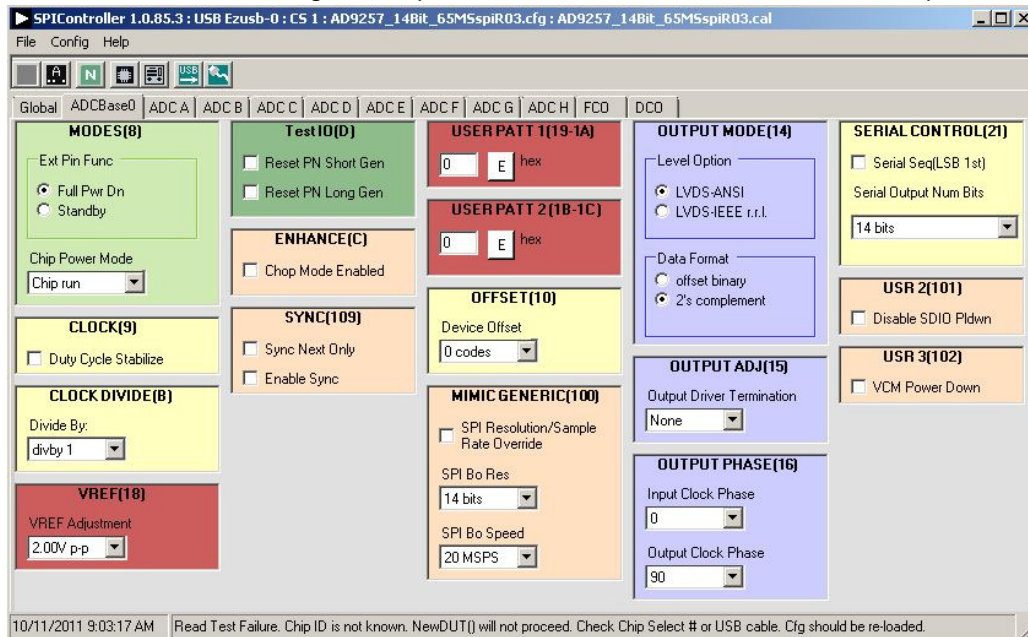

Figure 3. SPI Controller window for the AD9257/AD9637
11. Next, start the SPIController software. If prompted for a configuration file, select the configuration file titled AD9257_14Bit_65MSspiR03.cfg for AD9257 or AD9637_14Bit_80MSspiR03.cfg for AD9637. If not prompted, check the title bar of the window to see which configuration is loaded. If necessary, choose "Cfg Open" from the "File" menu and select the configuration file named above. Note that the CHIP ID(1) field may be filled whether the correct SPI Controller configuration file is loaded or not.
13. The SPI Controller window (shown in Figure 3) helps customize the AD9257/AD9637 to fit the data capture needs of the customer.
14. In the SPIController ADCBase0 window shown in Figure 3, in the MODES(8) section in the upper left, push the arrow under “Chip Power Mode” to see the pull-down menu. Select “Reset”. The select “Chip run” in the same menu to restore the ADC to normal operation.